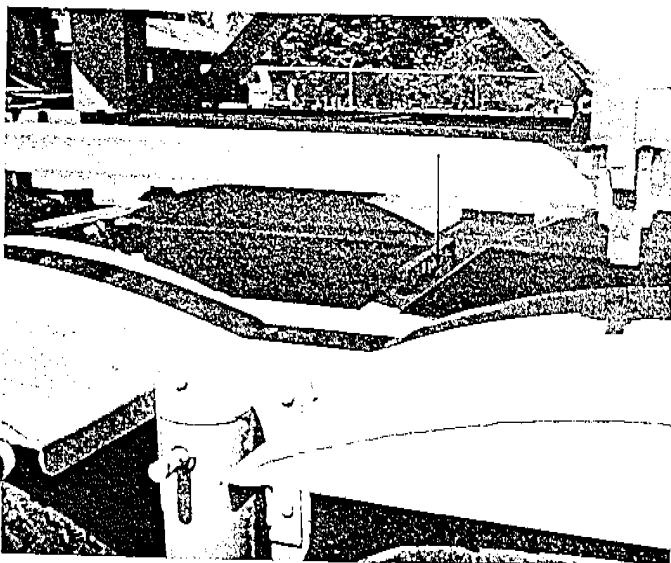

Fig. 7
- (4) Across the dual axle. (Fig. 7)